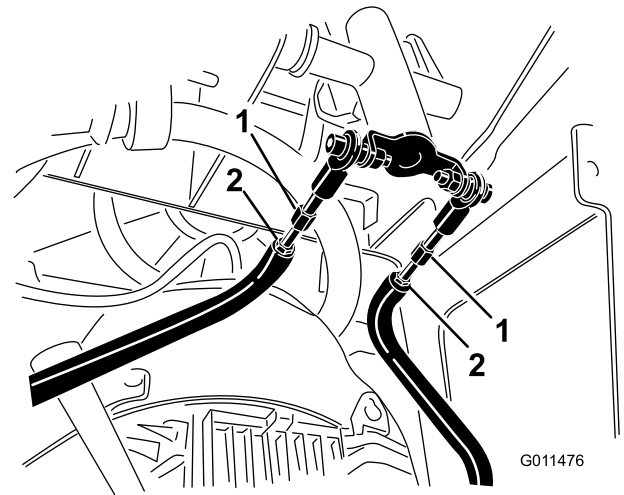

Figure 53
D. Loosen the jam nuts on the traction rods, under the control panel (Figure 53).